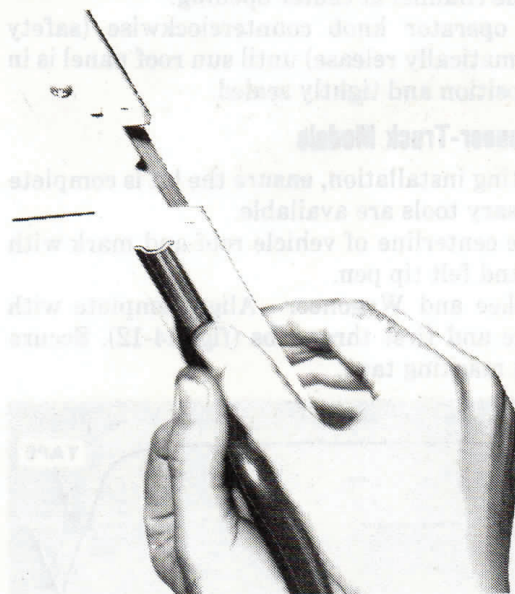

**Fig. 14-9 Sealing Sun Roof Frame**
(16) With roof and main frame clean and dry, seal perimeter of main frame flange and roof with silicone sealer. This is necessary to ensure a water-tight installation (fig. 14-9).